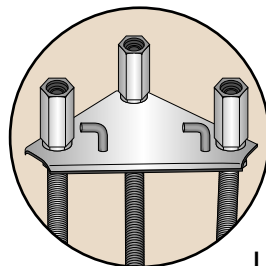
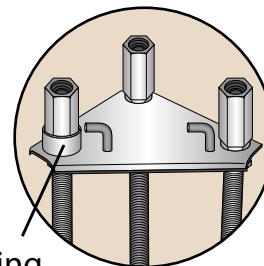

Fig 2,
Fig 3,
3. Connect the 3 long nuts as shown. (See Fig 2). Place the flagstaff locking ring over the long nut next to the flagstaff hinge lug as shown (See Fig 3)